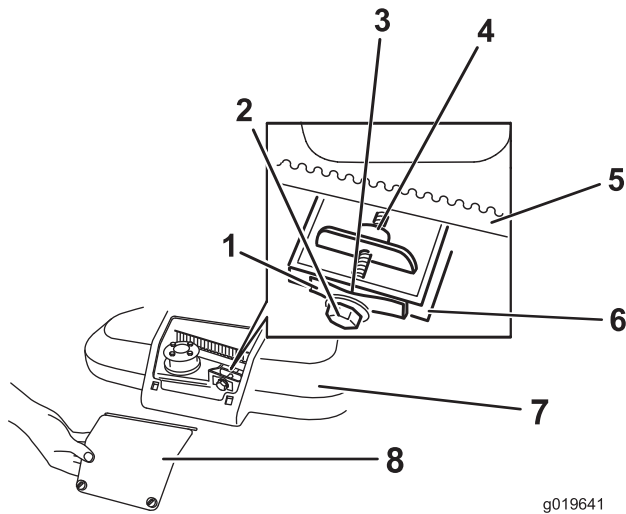

Figure 39
1. Loosen the 2 screws on the belt-cover panel and remove the panel (Figure 39).
3. Hold a 0.26 mm (0.010 inch) feeler gauge, a piece of paper, or a note card against the wall and slide it down behind the belt tension spring (Figure 39).
Note: If there is a visible gap between the gauge and the spring, tighten the adjusting bolt and the nut until the paper barely slides freely in and out of the gap (Figure 39).